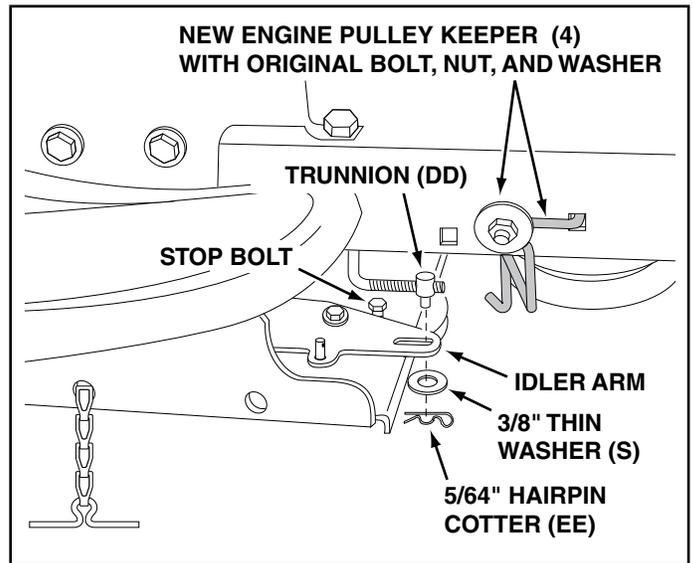

FIGURE 33 **RIGHT SIDE VIEW**
STEP 33: (SEE FIGURE 33)
- Pivot the upper idler arm so that it rests against the stop bolt and is pointing toward the front as shown. Screw the trunnion (DD) along the threads of the engagement rod until it is aligned at the front end of the idler arm slot. Attach the trunnion to the slot using the 3/8" thin washer (S) and a 5/64" hairpin cotter (EE).
- Remove the engine pulley keeper from the side of the tractor frame by removing the washer and nut that secure the keeper. Attach the new pulley keeper (7) supplied with the snow thrower, reusing the original bolt, washer and nut.